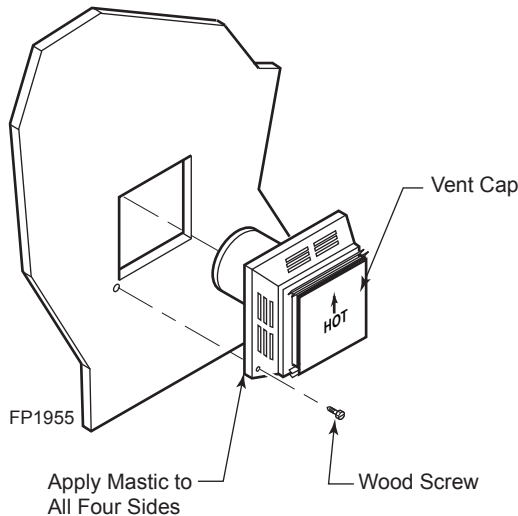

Figure 13 - Install Horizontal Termination
4. Apply a bead of non-hardening mastic around the outside edge of vent cap. Position the vent cap in the center of the 7 1/2" (190 mm) or 9 1/2" (241 mm) hole on the exterior wall with the word "UP" on the vent cap facing up. Insure proper clearance of 1" to combustibles is maintained. Attach the vent cap with four wood screws supplied. *Figure 13.*